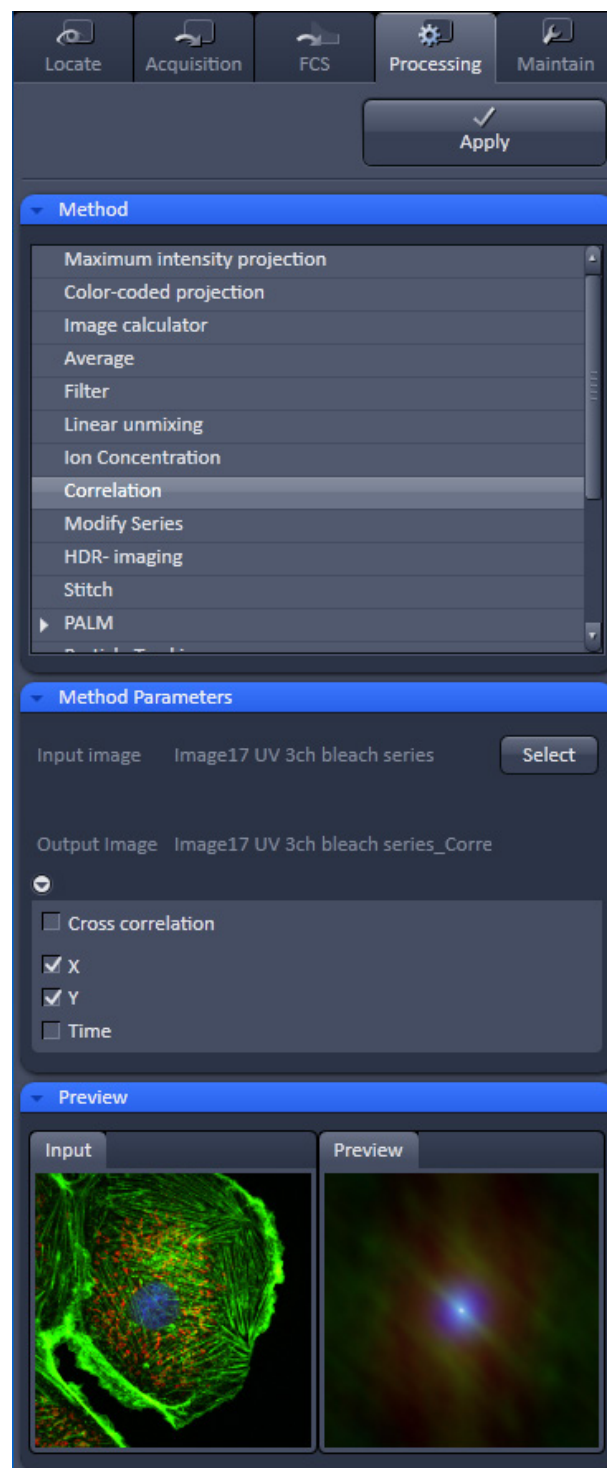

Fig. 421 Processing – Correlation
- Activate **Correlation** in the **Processing** tool. The **Correlation** menu will appear (Fig. 421).